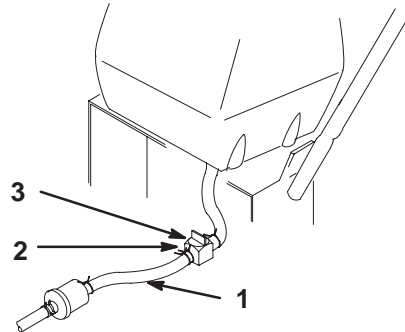

Figure 33
2. Close fuel shut-off valve (Fig. 33).
3. Squeeze the ends of the hose clamp together and slide it away from valve (Fig. 33).
4. Pull the fuel line off the valve (Fig. 33). Open fuel shut-off valve and allow gasoline to drain into a gas can or drain pan.